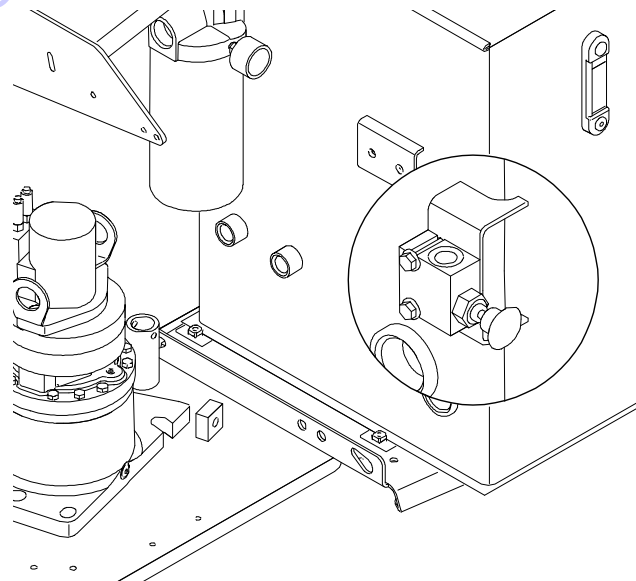

Figure 4-13. Releveling Valve
A pull type control valve allows the operator to adjust the upright level cylinder if the upright is not 90° (vertical) relative to the chassis. (Refer to Figure 4-13.) This valve is located in the tank compartment area.
3. Pull and hold the red relevel knob located next to the main control valve. Refer to Figure 4-13.